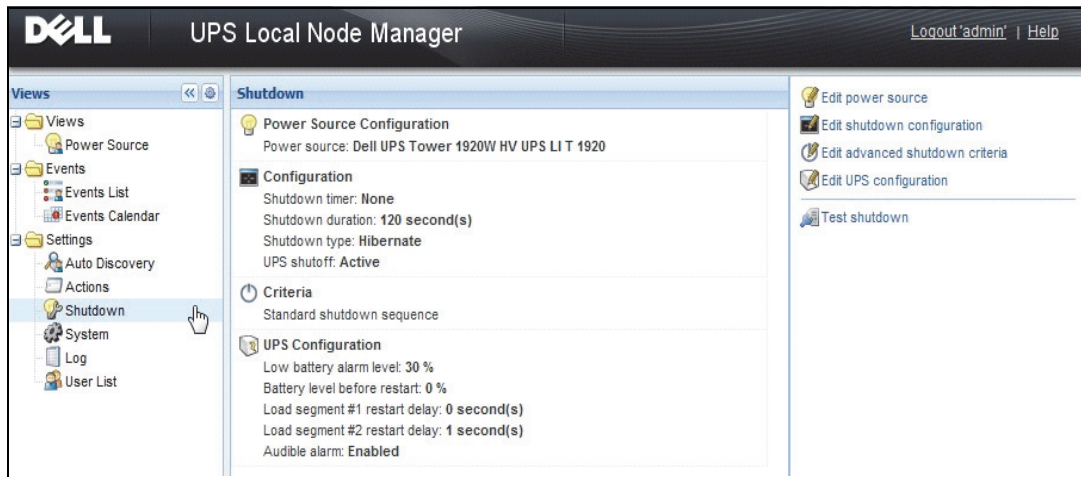

Figure 14. USB/Serial Power Source on Shutdown Page
- 2 Select **Settings > Shutdown**. The Shutdown page is displayed (see Figure 14).